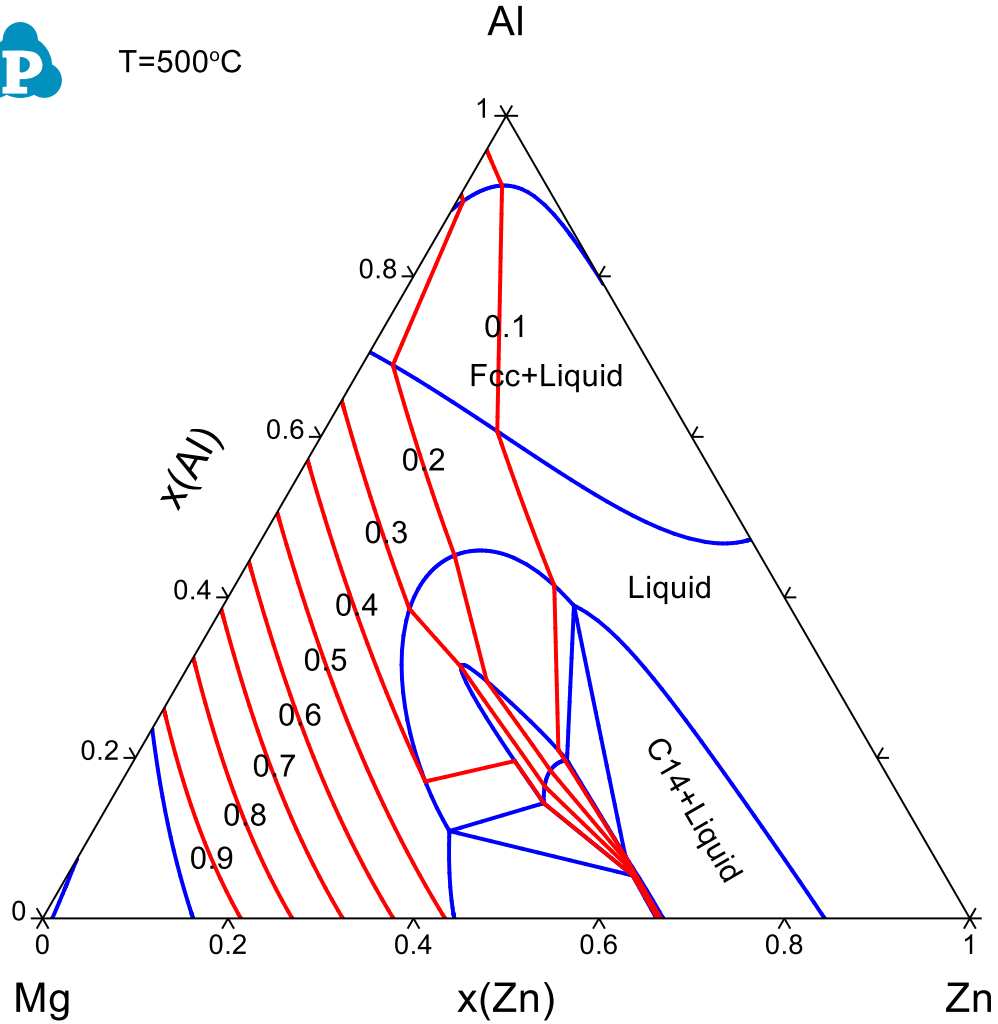

Figure 1.15.3: Activity contour diagram of Mg in the Al-Mg-Zn ternary at 500°C
- Figure 1.15.3 shows the activity contour diagram of Mg at 500°C. The variation of Mg activity in the composition triangle is clearly seen at this temperature;